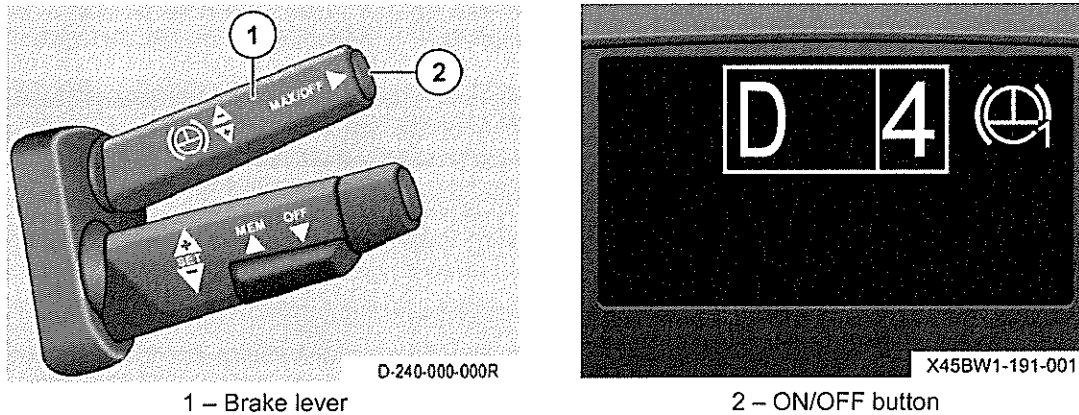

Fig 13 Activating the EVB
- 57 Refer to Fig 13. To activate the EVB, proceed as follows:
- 57.1 Press the ON/OFF button (2) on the sustained-action brake lever (1).
- 58 Refer to Fig 13. To deactivate the EVB, proceed as follows:
- 58.1 Depress the accelerator pedal or press the ON/OFF button (2) on the sustained-action brake lever (1).